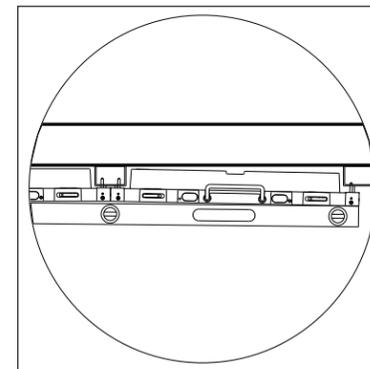

**Figure 25:** Align Panel Faces
- Use a 6 mm Allen wrench to attach the flattening jig to the front of the panels, and ensure the panel faces are completely flush. Refer to **Figure 25** and **Flatten Panels (p.4)**.